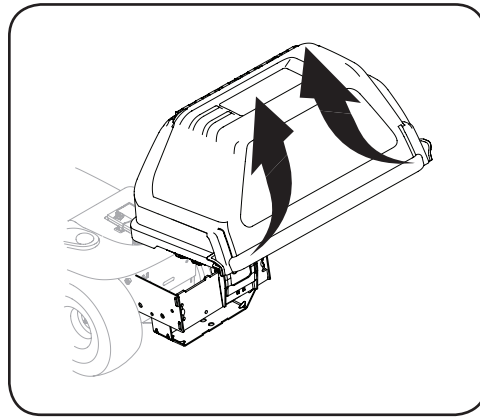

Figure 4-17
- Open the bagger cover by pushing in on the tabs and lifting the upper grass catcher cover. See Figure 4-17.